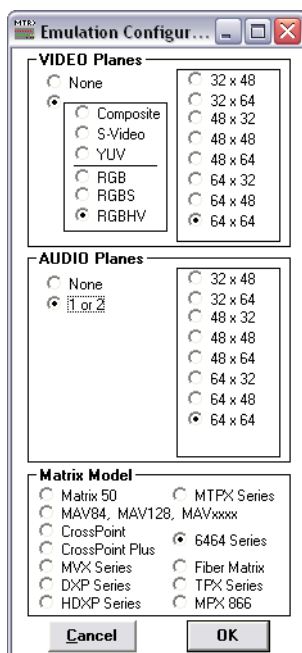

Figure 5-18 — Emulation mode configuration
5. Select **6464 Series**, the matrix size, and the number of video planes (video format) and audio planes (**None** or **1** or **2**), for which you are preparing a configuration (figure 5-18), and click **OK**.